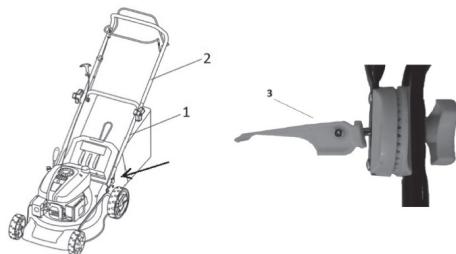

Fig. 2
1. Insert the bottom part of the handle (Fig.2 – point 1) into the respective hole on the lawn mower (see arrow) and secure in place with 4 screws – two screws on each side of the handle.
2. Attach the top part of the handle (Fig. 2 – point 2) to the bottom part of the handle using the included screws with the quick coupler and wing nuts (Fig.2 – point 3).